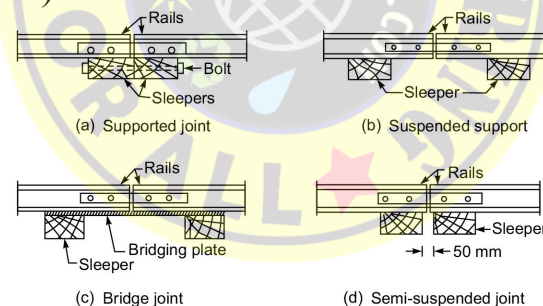

Fig. 15.2 Type of joints
* The various types of joints used are supported joint, suspended joint, bridge joint and semi-suspended joints (Refer Fig. 15.2).